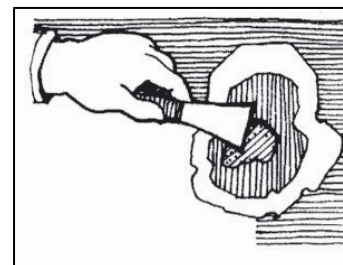

Figure-14. Graffiti Removal.
- Any vandalism that defaces or mars the building surface (i.e. graffiti) should be mitigated within 48 hours so as to prevent further vandalism (Figure-14).